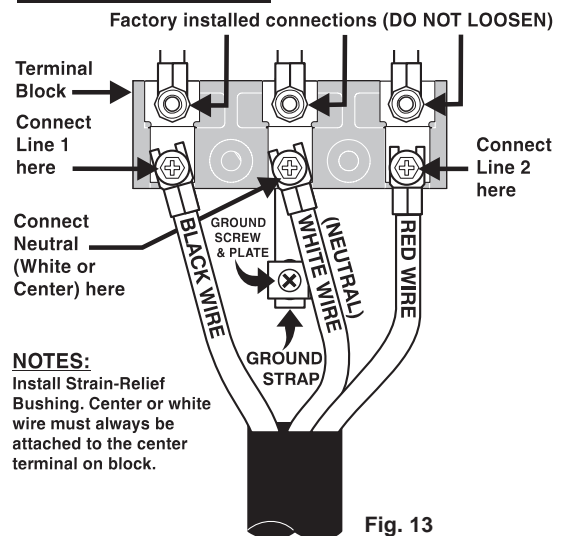

Fig. 13
### (3-Wire Connection Instructions . For existing installations ONLY - Refer to Fig. 13).
2. Insert the end connectors for Line 1, Line 2 and Neutral and tighten securely to the terminal block (See Fig. 13).
A ground strap is installed on this range which connects the center terminal of the terminal block (Neutral) to the range chassis. The ground strap is connected to the range by the center, lowest screw (See Fig. 13). The ground strap must not be removed unless National, State or Local Codes do not permit use of a ground strap.